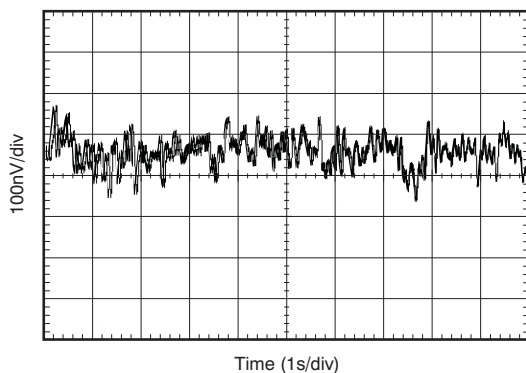

Figure 10.
0.1Hz to 10Hz Noise	<a href="#">Figure 10</a>